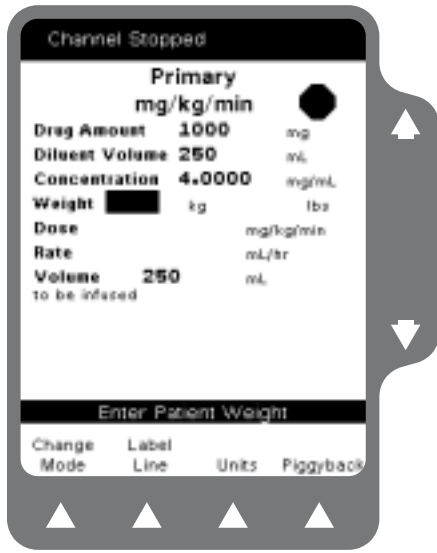

Figure 5-20 Enter Weight
- Highlight the Weight field and enter the patient’s weight using the numeric keypad (Figure 5-20).